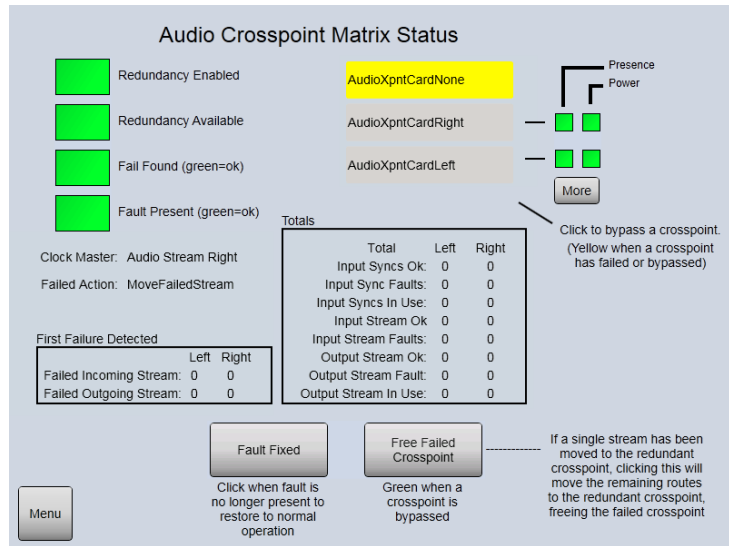

Figure 53 Sirius 800 Audio Crosspoint Matrix Status and Crosspoint Switching
If one or more routes fail on an audio crosspoint module this will be displayed on the Audio Crosspoint Matrix Status screen. A typical example of how the buttons will look is listed below (see Figure 53 on page 88 for button and parameter locations):
7. The Audio Crosspoint Matrix Status screen should now return to its working state (see Figure 53 on page 88 for button and parameter locations):